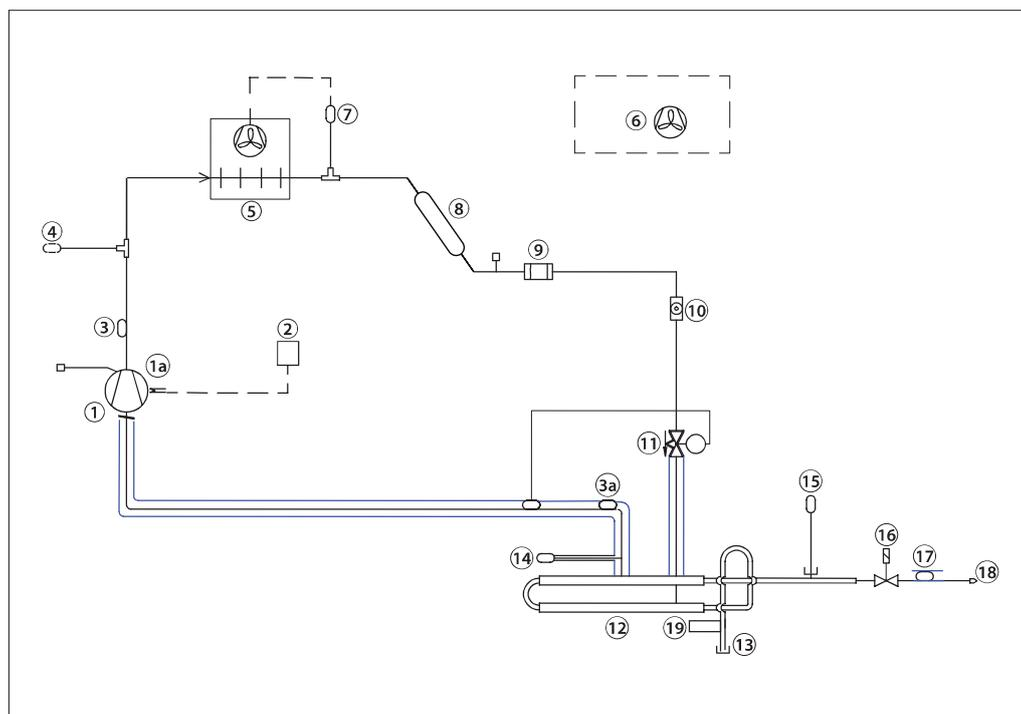

Fig. 1 - Purger R290 lay-out
\*\* See Fig. 1 and Fig. 10a
Only 1 mechanical connection is needed for the purger (see fig. 1). The flow of ammonia/NC gases from the main plant is done through the flange for ammonia (see 13 in Fig. 1 below), while the NC gas purge is done through the blow-off pipe after the purge restrictor (18).